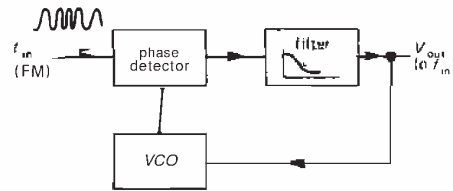

Figure 9.77. PLL FM discriminator.
In the simplest method, a PLL is locked to the incoming signal. The voltage setting the VCO frequency is proportional to the input frequency and is therefore the desired modulating signal (Fig. 9.77). In such a system you would choose the filter bandwidth wide enough to pass the modulating signal, i.e., the response time of the PLL must be short compared with the time scale of variations in the signal being recovered. As you will see in Chapter 13, the signal applied to the PLL does not have to be the actual transmitted waveform; it can be an "intermediate frequency" (IF) generated in the receiving system by the process of *mixing*. A high degree of linearity in the VCO is desirable in this method of FM detection, for low audio distortion.